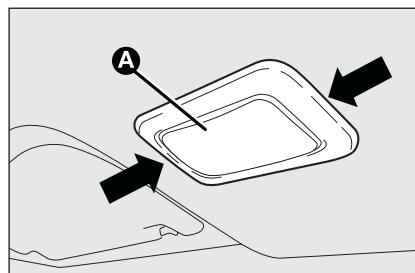

fig. 35
- ☐ remove the ceiling light **A-fig. 35** levering in the points shown by the arrows;